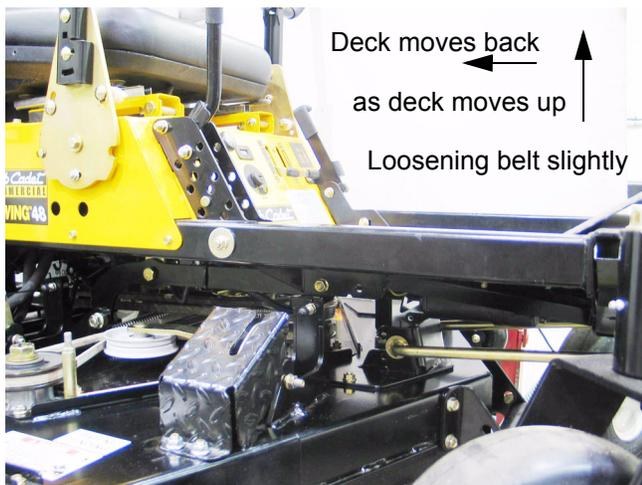

Figure 3.3
- 3.3. Raise the cutting deck to the highest position. This moves the deck as far back as possible, reducing the amount of force on the PTO belt tensioner. See Figure 3.3.